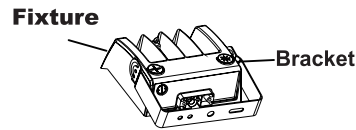

FIGURE 2.3
2. Finish the wire connection according to the right mode of connection (pay attention to load wire, neutral wire, and ground wire) (FIG 2.3)